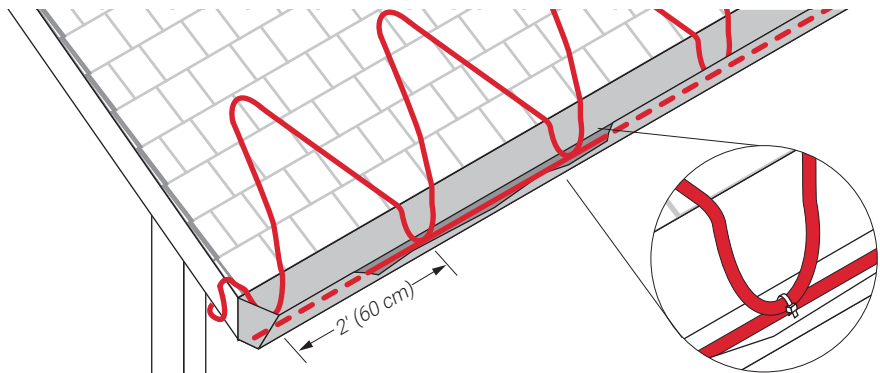

Fig. 7 Layout in a zig-zag pattern
For sloped roofs, ice dams may form at the roof edge. To maintain a continuous path for melt water runoff, route the heating cable in a zig-zag pattern as shown in Fig. 7 and follow the appropriate attachment recommendations in “Step 6 Select attachment accessories and method”. Additional heating cable may be needed for other gutters, downspouts, and valleys.
- Install the heating cable on the roof in a zig-zag pattern as shown in Fig. 7.
Note: Attachment methods are not shown in Fig. 7. For attachment methods, proceed to “Step 6 Select attachment accessories and method”.